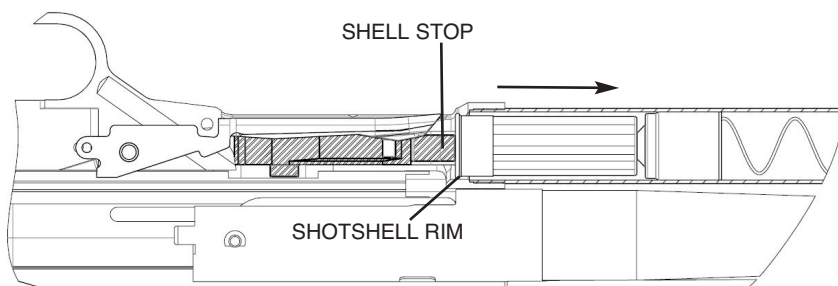

Figure 7
2. Continue carefully pushing the shotshell into the magazine tube until the rim of the shotshell is past the shell stop (Figure 7). The shell stop will “snap” over the rim of the shotshell. Repeat this sequence to load each additional shotshell.